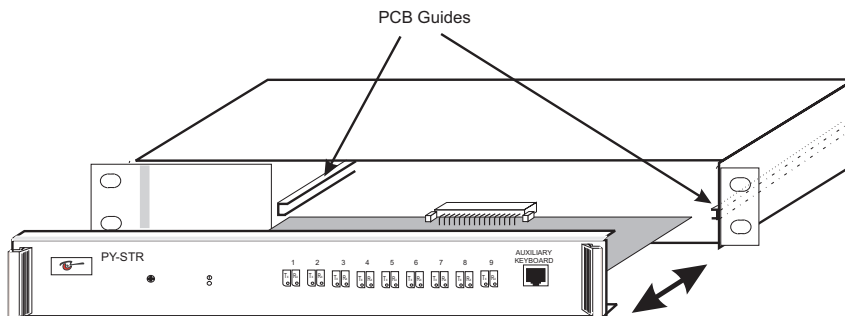

Figure 3 Removing the PCB
- Carefully slide out the front panel and attached PCB (see Figure 3).